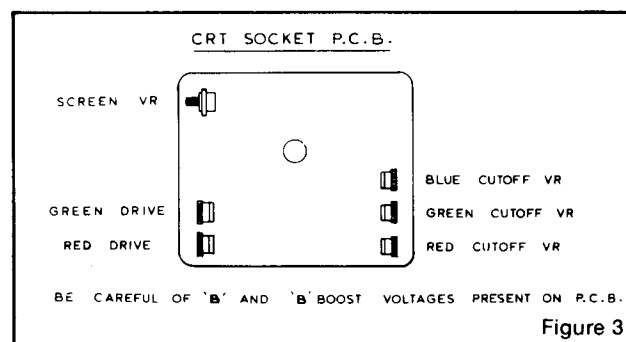

Figure 3
- 4.6 CRT cut off controls (See fig. 3)
- 4.7 Screen control (G2) R124 (See fig. 3)
- 4.8 Video drive controls (See fig. 3)
- 1.5 Turn off the green and blue fields and adjust setup controls to produce a red field. (See fig. 3)
Refer to figure 3. Do the following in subdued light: